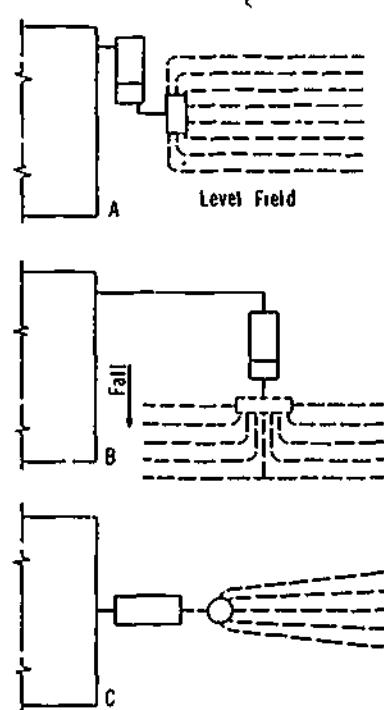

Figure 24-11. Various Patterns for Disposal-Field Tile
d) Three other patterns for disposal-field tile, all using distribution boxes, are shown in Figure 24-11. Diagrams A and B in Figure 24-11 show patterns suitable for a level residence yard and a sloping site respectively; diagram C shows a pattern notable for its fan-shaped layout and circular distribution box.